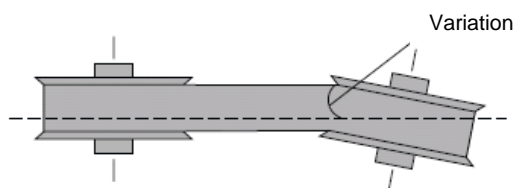
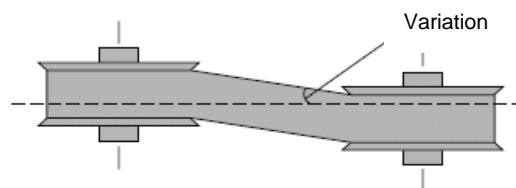

Fig. 10-8 Angular misalignment
Fig. 10-9 Parallel misalignment
10.- Adjust motor position to correct misalignment (Fig. 10-8 and Fig. 10-9).
Generally, the tolerance in pulley alignment in V-belt drive transmissions may not be greater than 0.5 degrees or 5 mm for each 500 mm of distance between centres (Fig. 10-8 and Fig. 10-9).